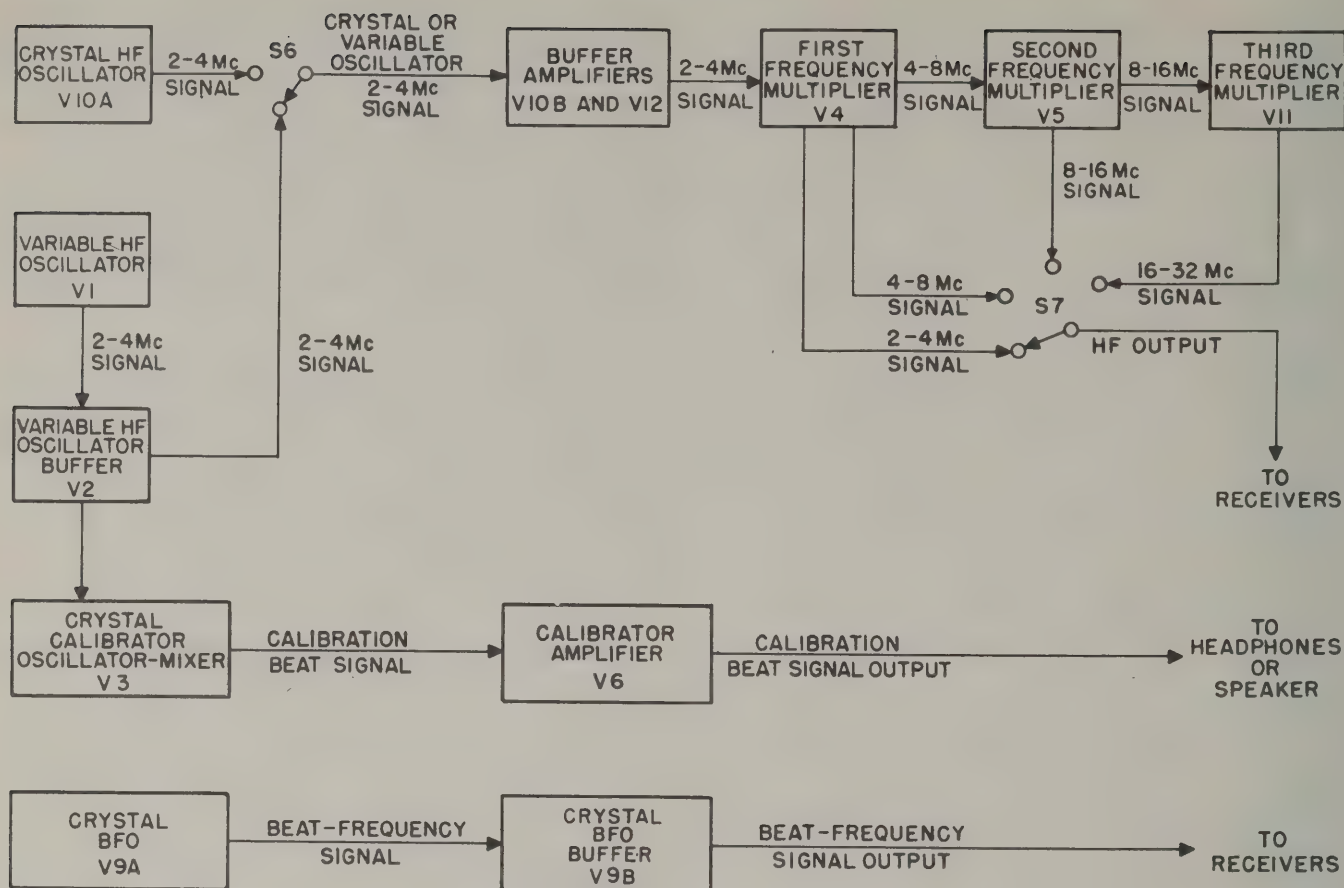

Figure 2-13. Radio Frequency Oscillator O-165/UR, Block Diagram
b. BLOCK DIAGRAM DESCRIPTION. (See figure 2-13.)—The variable HF oscillator tube V1 produces a signal which can be varied in frequency between two and four megacycles. This signal is fed through buffer stage V2 to switch S6. One of three crystals in the crystal oscillator V10A applies a fixed frequency to switch S6. The variable frequency signal, or one of the crystal frequency signals, is fed from switch S6 to the buffer amplifiers V10B and V12, where it is amplified. The amplified HF signal is applied to the frequency multiplier stages V4, V5 and V11. Table 2-3 lists the output frequency range of each stage of the frequency multipliers, and of the entire high frequency section of the Oscillator O-165/UR when switch S7 is turned to each position.